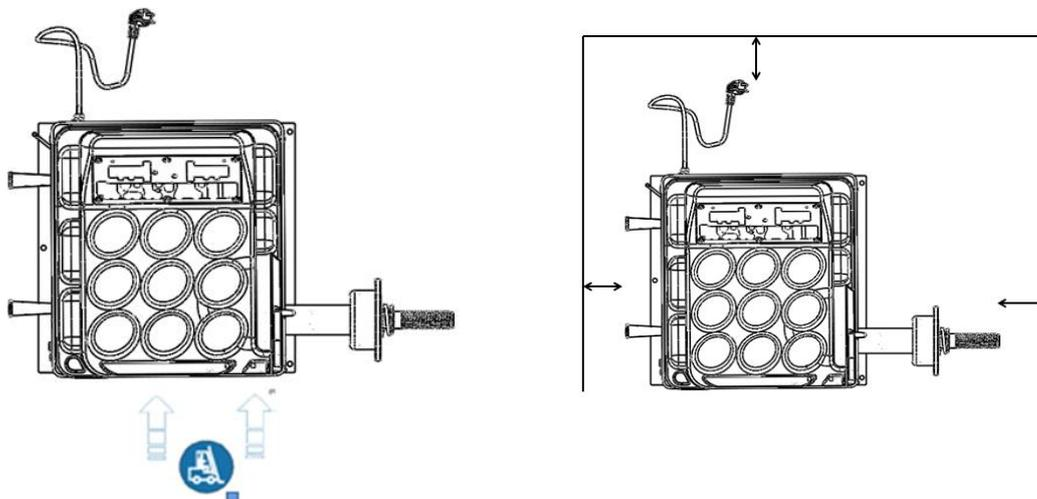

Fig 4
4. 1. 1After being sure that the package of your machine is perfect, you can carry the wheel balancer to the installation site.(Fig3). The choice of the installation should comply with the following requirements. The ambient temperature is 0°C - 50°C and the RH $\leq 85\%$. And the installation site as shown in (Fig4) .